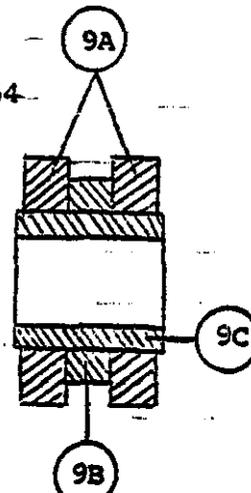

FIGURE 10
- b. Alternate method, if use of lathe is not possible, Figure 10 cross-section view: assemble sheaves (2-9A & 1-9B) each) with bearings (9C) as shown; file bearing (9C) lengths so that assembled sheaves will revolve singly; 9A and 9B may each be built up of series of thin washers, if necessary.